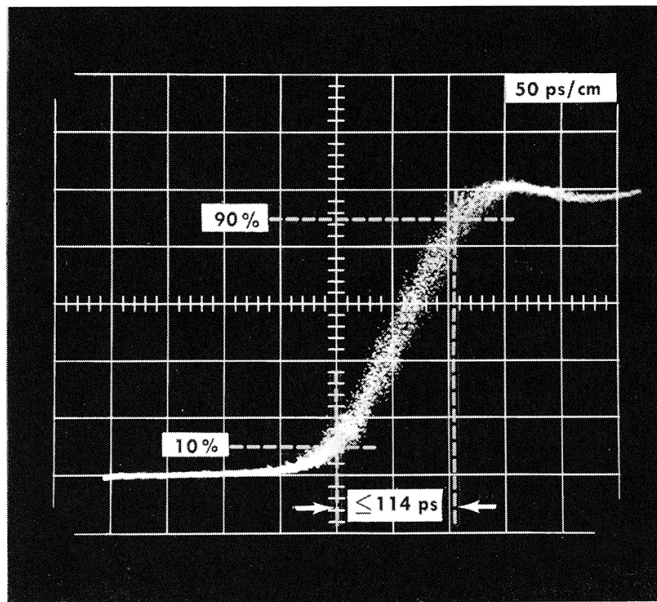

Fig. 5-13. Typical display showing risetime.
g. Set the Millivolts/cm Variable control so the display amplitude is 5 cm. Measure the risetime of the pulse from the 10% to 90% points; see Fig. 5-13.